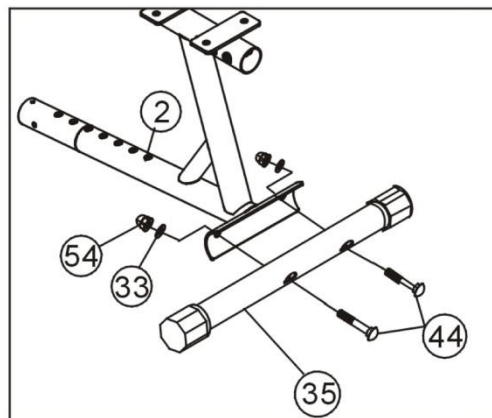

Figure 2
Attach the Rear stabilizer (35) to the Seat cushion adjuster (2) with two M8X55 Bolts (44), and 2 pcs of $\Phi 8$ Arc washers (33), and 2 pcs of M8 Cap nuts (54). (Refer figure 2)